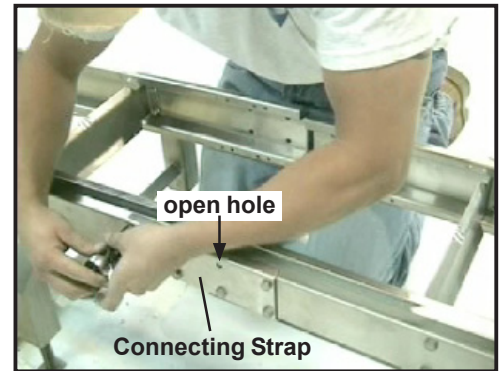

Figure 5: Tighten first four bolts
- Insert bolts through the connecting straps and holes in the side frame. NOTE: You will need to leave one hole open, so you can use an alignment tool to help align the frames. After this step there should be four bolts in one end of the strap and three bolts in the other end, with one open hole (Figure 5).
- Using a 1/2" (13mm) wrench, tighten the four bolts in one end of the connecting strap (Figure 5).